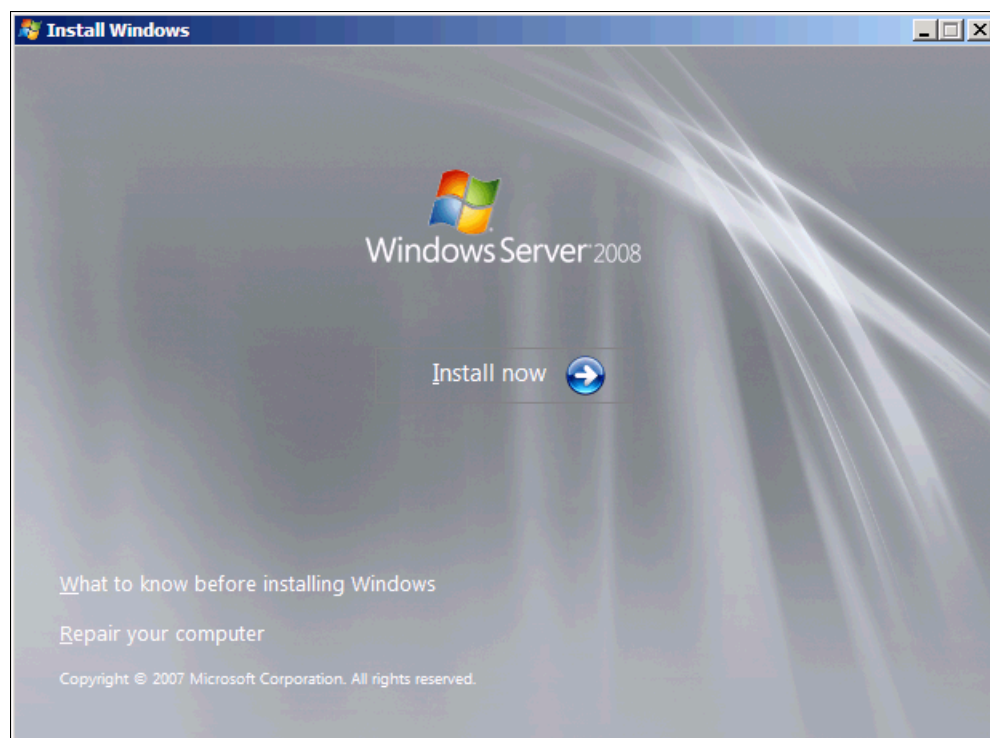

Figure 9-177 Install now button
11. In the Install Windows panel (Figure 9-177), select **Install now**.